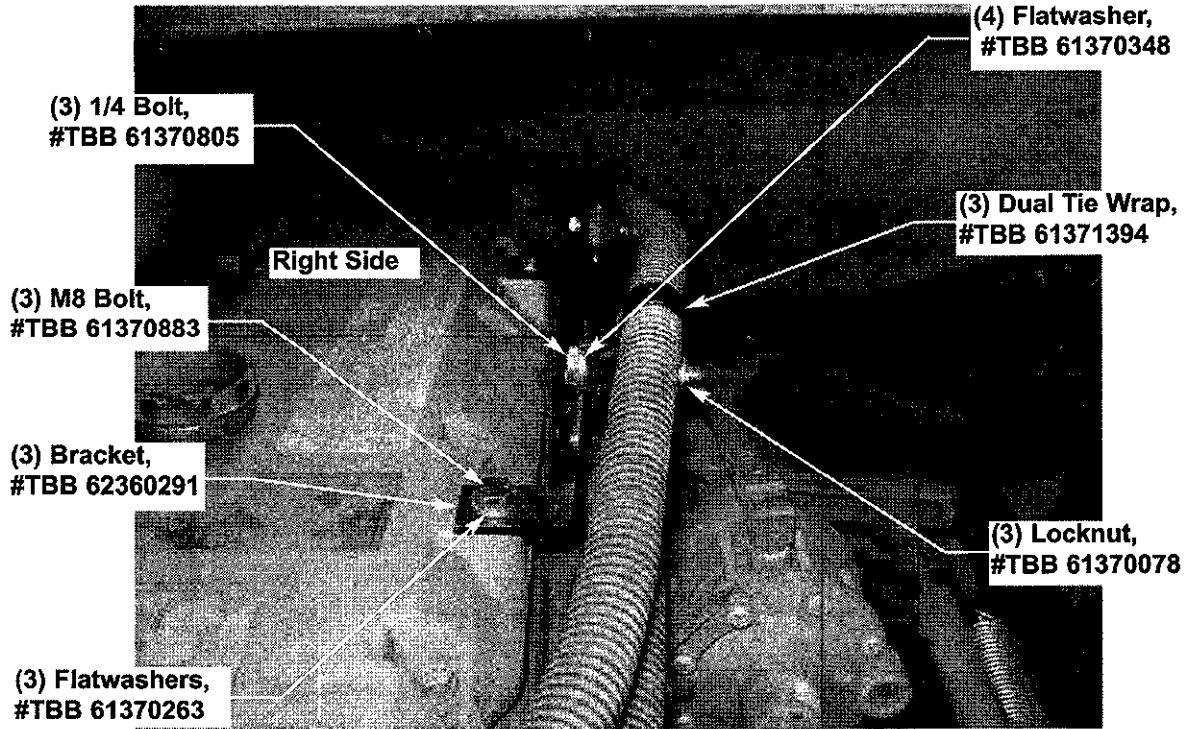

Figure 4
10. Install the two Dual Tie Wraps, #TBB 61371394 and the Stand Off Bracket, #TBB 62360291 with 1/4 Hex Bolt, #TBB 61370805, two Flatwashers, #TBB 61370348, and Locknuts, #TBB 61370078 over both 1ga. wires at area of bolt holes on the top right valve cover and affix clamps to the valve cover using two M8 Bolts, #TBB 61370883 and Lockwashers, #TBB 61370263. **Figures 4, 5, & 6.**